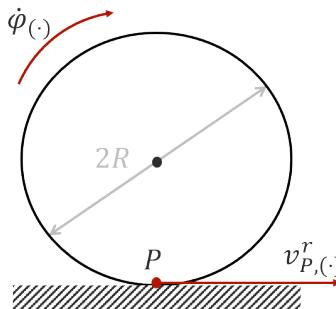

Figure 11.3. Pure rolling kinematic constraint
- *Pure rolling*: the wheels never slips or skids (Figure 11.3). Recalling that R is the radius of the wheels (identical) and letting $\dot{\phi}_l, \dot{\phi}_r$ be the angular velocities of the left and right wheels respectively, the velocity of the ground contact point P in the robot frame is given by: